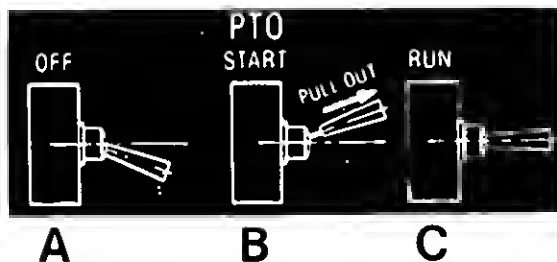

FIGURE 12.
2. Flip the toggle switch to the "RUN" position. See figure 12.